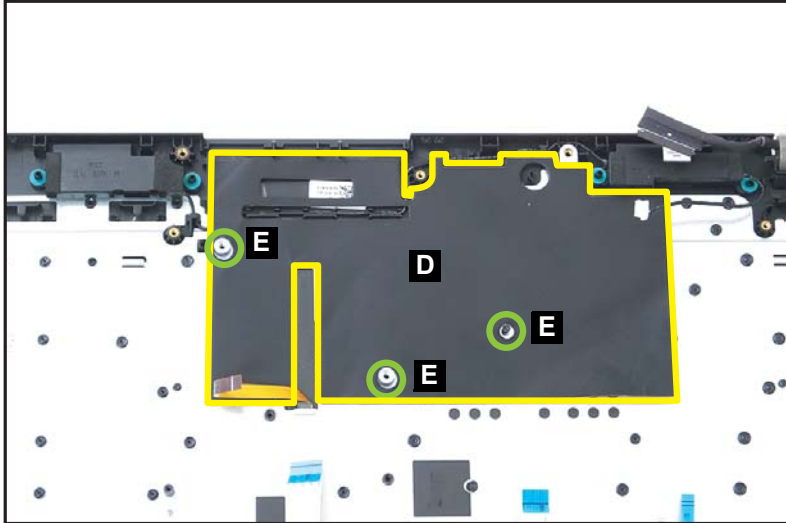
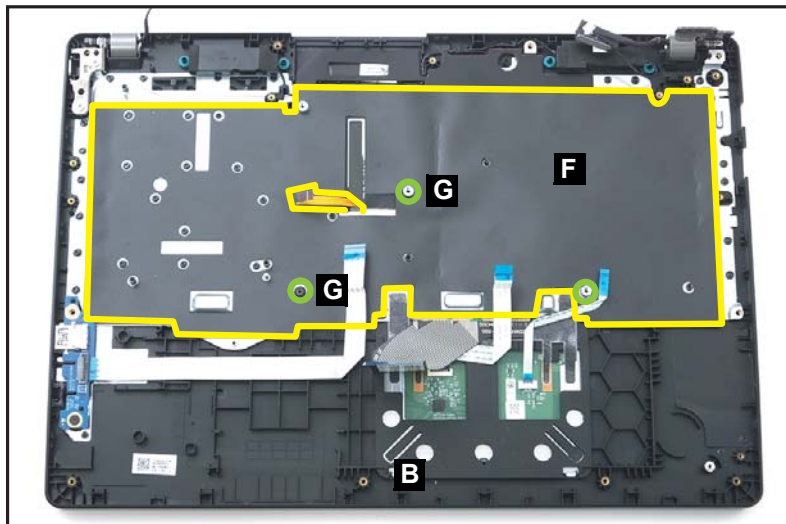

Figure 1-85. Replacing the Speaker Module
Figure 1-86. Replacing the Speaker Module
3. Attach the copper mylar (D) onto the keyboard and speaker cable as shown in Figure 1-85.
4. Attach the mylar (F) onto the keyboard as shown in Figure 1-86.
When attaching the mylars, make sure there are properly aligned with the guide pins (E and G), and placed onto their designated locations as shown in Figure 1-85 and Figure 1-86.